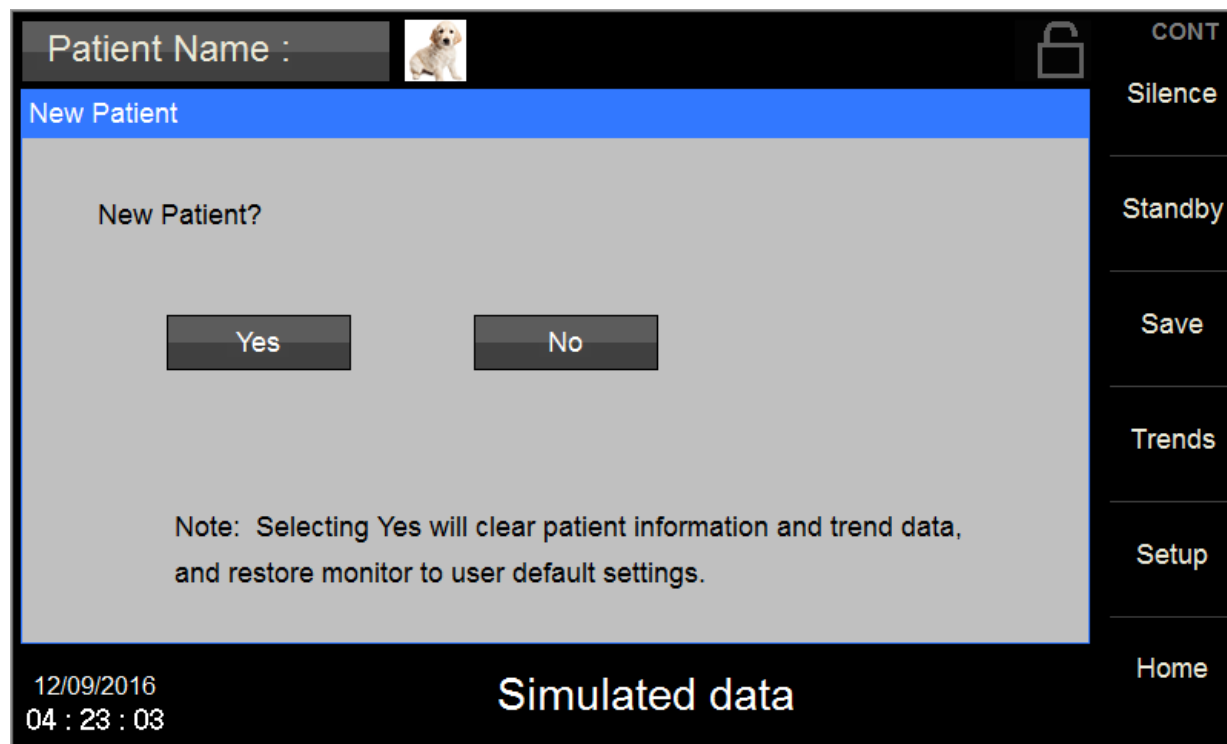

Figure 8: New Patient Question
- **New Patient?** screen appears (default setting), refer to Figure 8